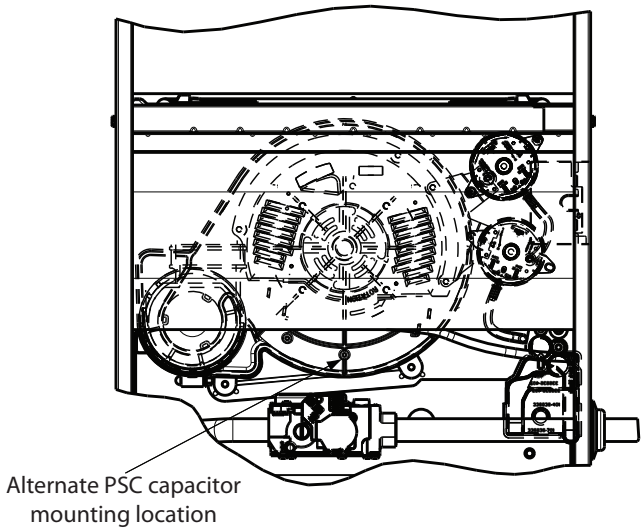

Fig. 3 - Inducer Shield Installation
4. Cover the inducer motor and inducer control (if applicable) with the provided paper cover and secure it to the blower shelf. Proper installation of the cover is shown in Fig. 3 and 4.
3. If furnace has a capacitor mounted to the inducer housing and the capacitor is directly below the termination of the combustion air pipe, relocate the capacitor to center of the inducer housing. This location shown in Fig. 3.